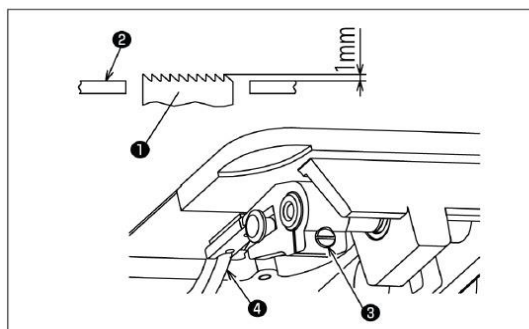

Fig.17
Feed dog (1) is factory adjusted to jut out 1 mm from the surface of throat plate (2). When the feed dog height needs to be adjusted according to the sewing specifications or after the feed dog is replaced, do as follows: Loosen screw (3) and move feed bar (4) up and down to adjust the height of the feed dog. Then firmly tighten the clamping screw. See fig.17.